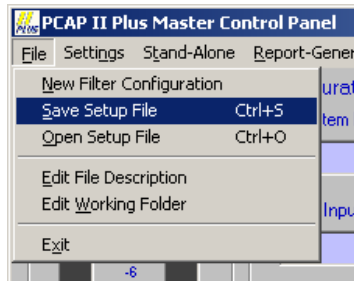

Figure 3-15 Tutorial File Pulldown Menu
55. Access the Save Setup File feature by clicking on **File** in the menu bar. The pulldown menu in Figure 3-15 will appear.